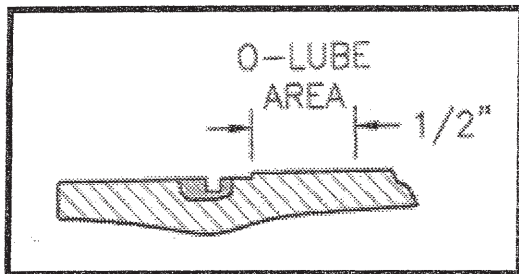

Figure 3
1. Work O-ring lubricant into shell area behind the retaining ring groove and approximately 1/2" into the vessel I.D. (See figure 3).